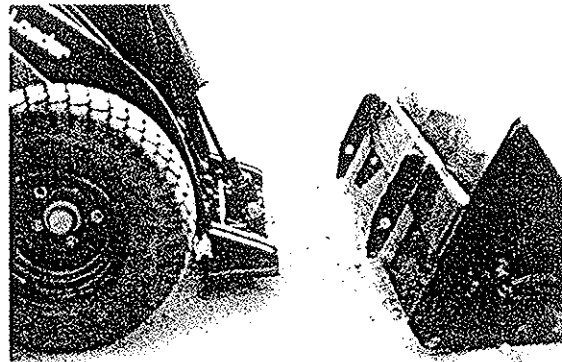

FIGURE 5
2. Tilt the attachment frame forward as shown in **Figure 5**, and line up the mount bars on the attachment with the slots on the attachment frame.